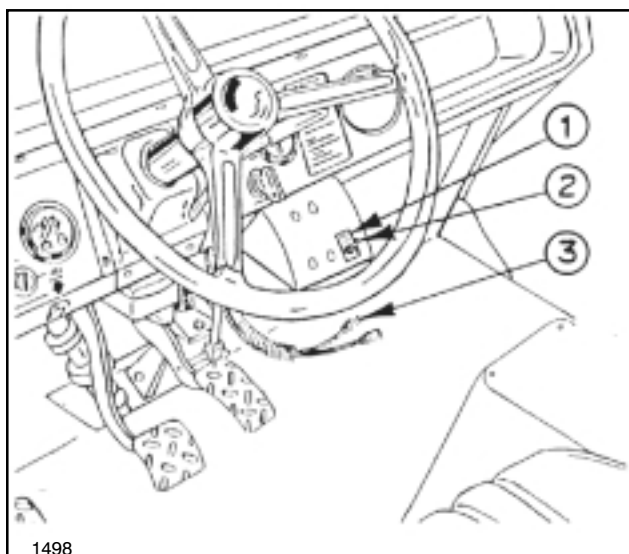

FIG. 1
3. Remove the (4) 3/8" x 1" hex hd cap screws and (2) nuts securing the radiator cover to vehicle frame and remove radiator cover.
5. Remove the (15) screws and washers securing front hood to vehicle frame and remove hood.
6. Affix foam marker decal around the right hole of the switch bracket (FIG. 1).
7. Mount foam marker switch in the lower right hole of the switch bracket with (2) hex nuts. See FIG. 1.
8. Plug the (2) push-on terminals of the wire harness into foam marker switch (FIG. 1).